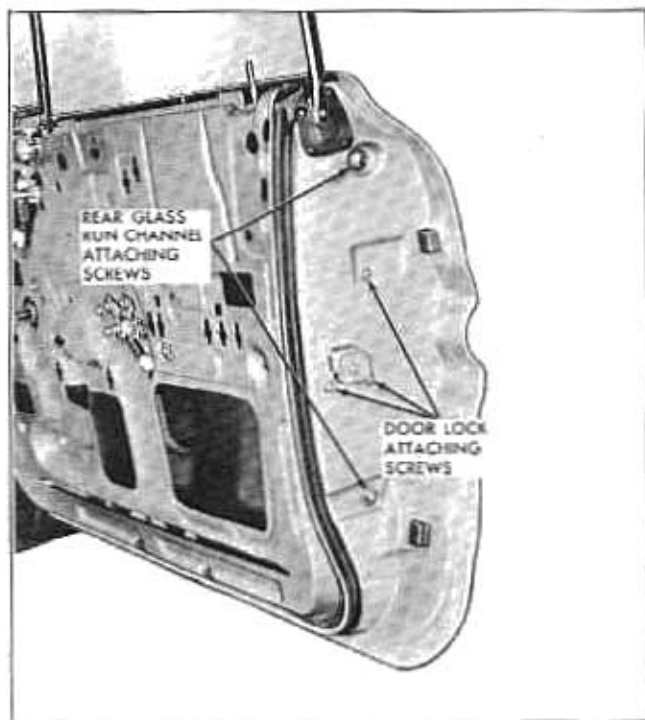

Fig. 2-18 Front Door Lock
4. Remove door lock attaching screws from lock pillar facing of door and remove lock assembly from door (Fig. 2-18).
4. To adjust upper rear of window assembly in or out for proper contact with side roof rail weatherstrip, or to adjust rear of window assembly in or out at belt line, loosen rear glass run channel attaching screws at lock pillar facing of door and screw at top of door inner panel. Position channel in or out as required and tighten screws (Fig. 2-18).